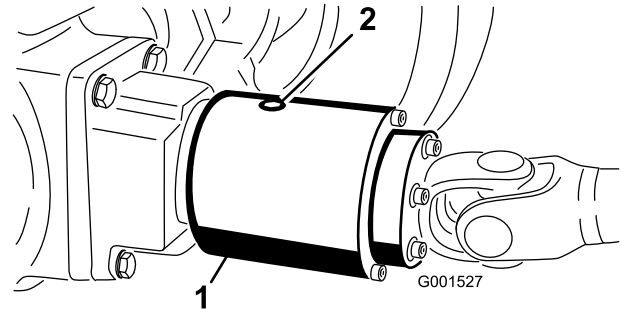

Figure 29
2. Rotate the clutch (Figure 29) so that the check plug is positioned at 4 o'clock.